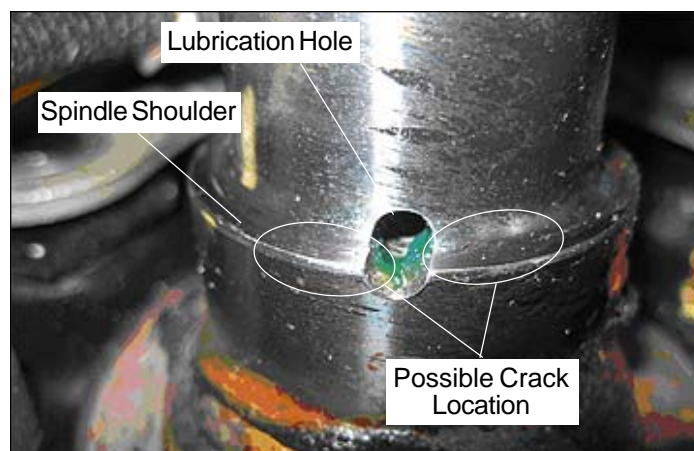

Figure 4 — Identifying Cracks
8. Carefully look for any evidence of cracks along the base of the shoulder. Look at each side of the lubrication hole for cracks starting at the hole and radiating out along the shoulder (refer to Figure 4).